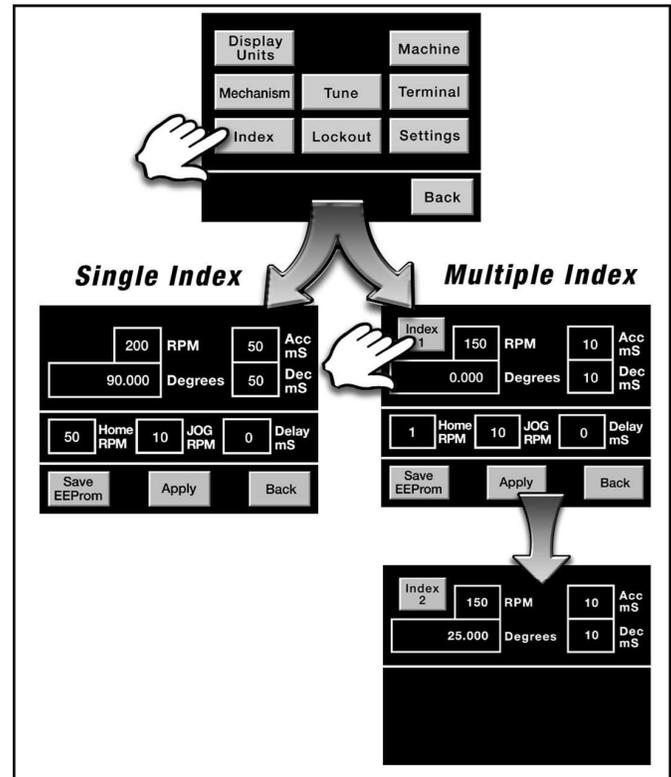

Figure 6.5 - Index Screens
(See Figure 6.5)
3. **"Position" Parameter** – This parameter sets the target position of the selected index movement. On the example screens shown in *Figure 6.5* this parameter is labeled **"Degrees"**. In general the label will depend on which display units have been selected: degrees; inches; millimeters; or counts (See Section 6-1). This position is scaled to match your application using the parameters on the Display Units Screen (See Section 6-1). A separate position parameter is entered for each index move.